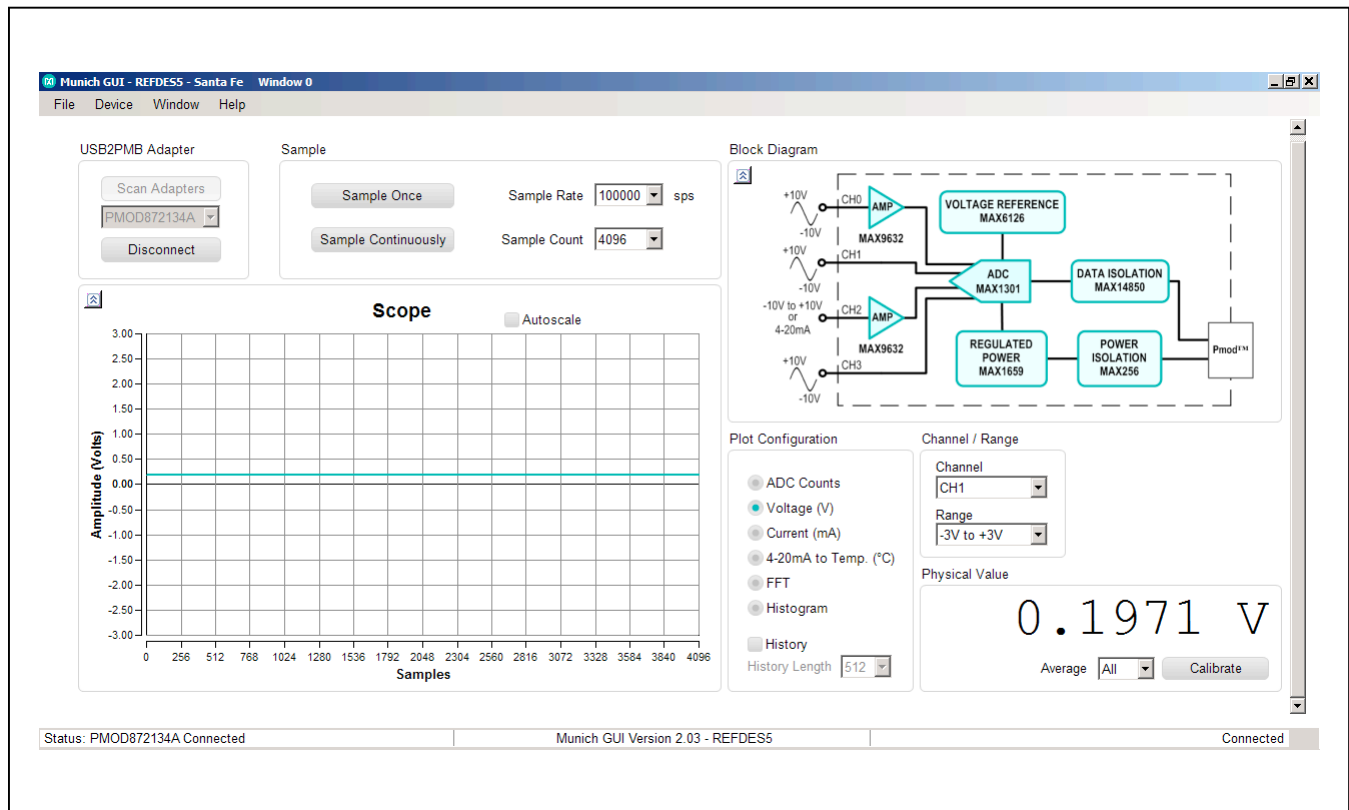

Figure 12. Munich/Santa Fe GUI
1) **Selecting Channel/Range:** Refers to the block diagram present at the right side of the GUI, which describes four different channel input options. Checking the right input and right input range at the GUI translates the input channel and its data range at the board. Each channel input has seven different input range options for selection. See Figure 12.